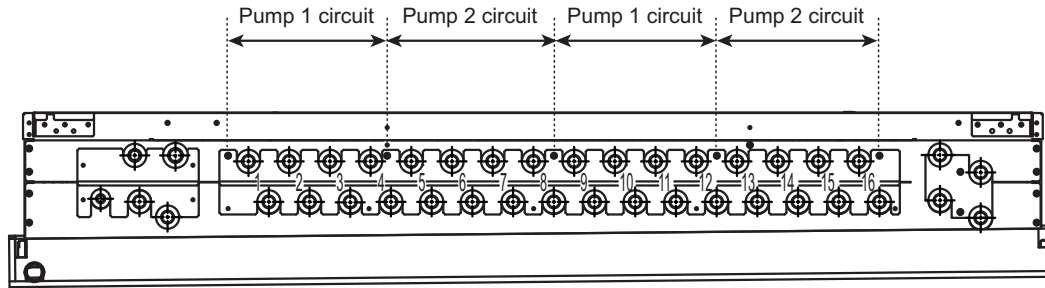

Fig. 11-2-1B
- ◆When connecting junction pipes to HBC ports, the branched sides of the junction pipes cannot be connected to combinations of ports "4 and 5," "8 and 9," or "12 and 13." (See Fig. 11-2-1B.)
- ◆HBC has two pumps. Each pump can accommodate the capacity of indoor units equivalent to P175. Make sure that the total capacity of the indoor units connected to "ports 1 through 4 and 9 through 12" or "5 through 8 and 13 through 16" will not exceed P175. (See Fig. 11-2-1B.)
- When connecting junction pipes to HBC ports, the branched sides of the junction pipes cannot be connected to combinations of ports "4 and 5," "8 and 9," or "12 and 13." (See Fig. 11-2-1B.)
- HBC has two pumps. Each pump can accommodate the capacity of indoor units equivalent to P175. Make sure that the total capacity of the indoor units connected to "ports 1 through 4 and 9 through 12" or "5 through 8 and 13 through 16" will not exceed P175. (See Fig. 11-2-1B.)